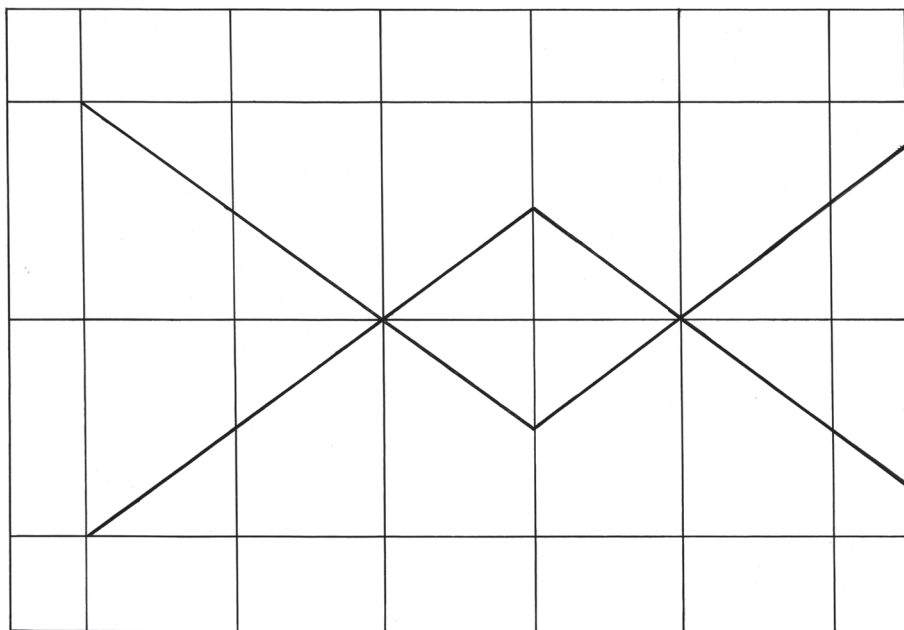

Figure 29: An “outline block” drawing of a lever system
- Look at Figure 29 below as an example. Start by drawing an **outline block** to work in.